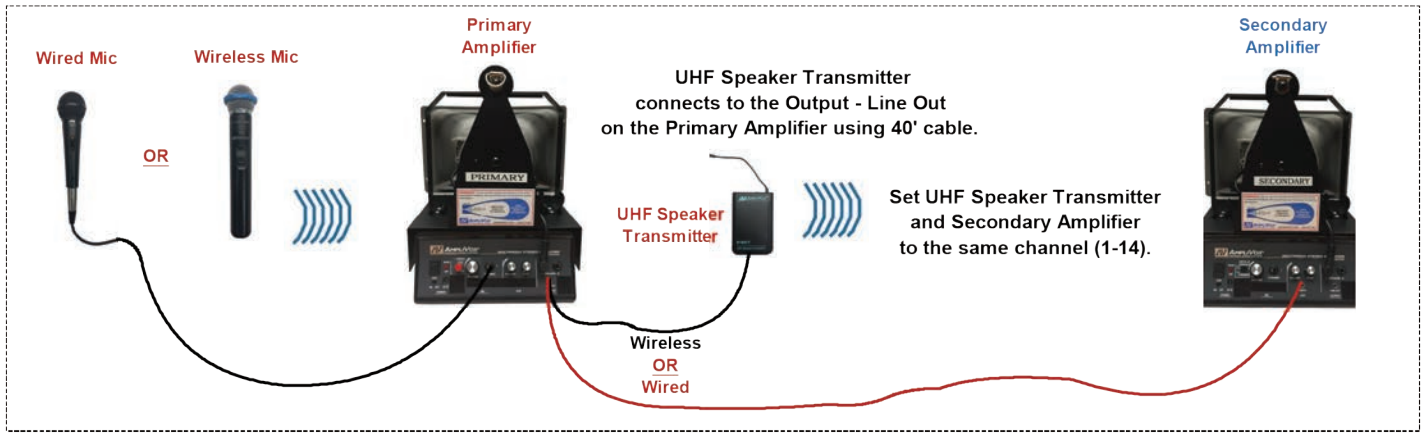

**Figure 2**
3. Wired microphone option (**See Figure 2**)